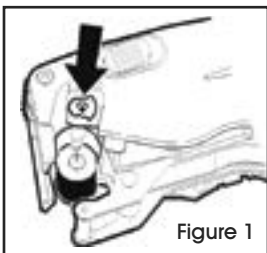

Figure 1
2. Hold the labeler sideways over a trash can while pushing the button to release the ink roller. (See Figure 1)